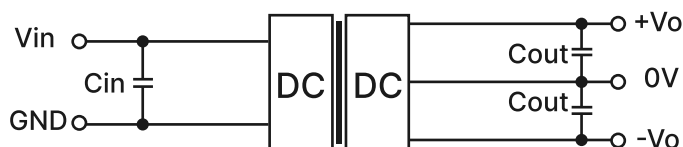

Figure 1: Application circuit
1. Typical application: If further reduction of input and output ripple is required, a capacitor filter network can be connected at the input and output ends. The application circuit is shown in Figure 1. However, suitable filter capacitors should be selected. If the capacitance is too large, it may cause over current or poor startup of the power supply. For each output, while ensuring safe and reliable operation, the recommended capacitance load values are shown in Table 1.